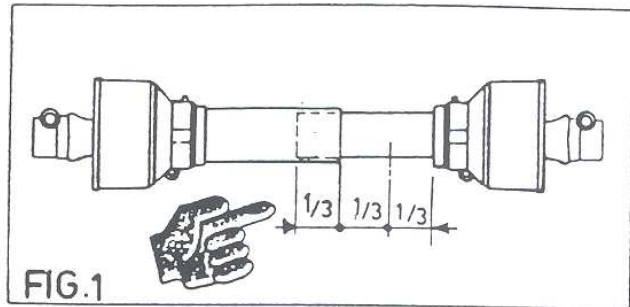

FIG.1
Fig. 1 - Place the rotor axle (1) in a stable position and then mount the tyres support (6). Use the pivot (8) and the Seeger circlips (18) to mount support (7) and (12) on to the support so they are facing in the direction shown in the figure. Use the washer (10) and nut (11) to assemble the wheels with their guards (4) and (5) on to the tandems. Make sure that, when the wheel brackets (14) are mounted on to the supports (13), the bracket plate matches the plate divided into sectors for the various supports. Use the screw (15), the nut (17) and the washer (16) to fasten the wheel bracket into position..
During both transport and use, avoid conditions where the Cardan transmission shaft is extended to the maximum. In all working conditions, the telescopic tubes must overlap by at least  $\frac{1}{3}$  of their length (Fig.1).